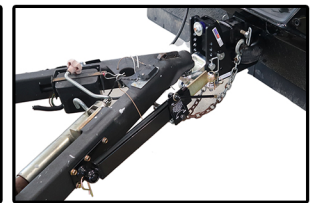

Figure 2: Friction sway arm kit installed on Shocker HD Max Black Air Bumper Hitch
- Take friction sway arm and loosen the tension, attach friction sway arm to trailer-mounted ball on trailer tongue and to the mini trailer ball on Shocker Hitch, secure using clips (see Figure 2).